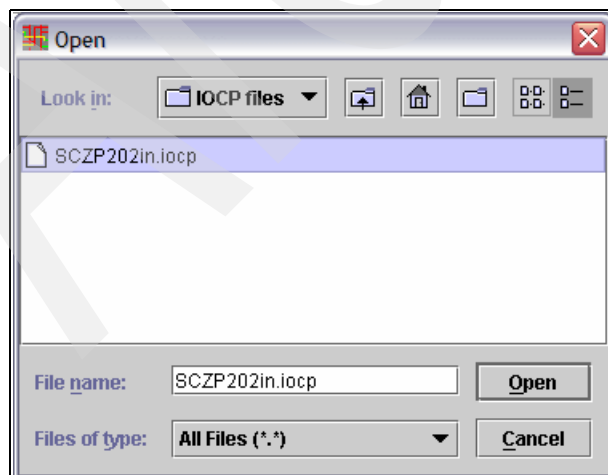

Figure 3-53 CMT - Import IOCP file
1. To import the IOCP file, click **Tool** → **Import IOCP File** (Figure 3-53).